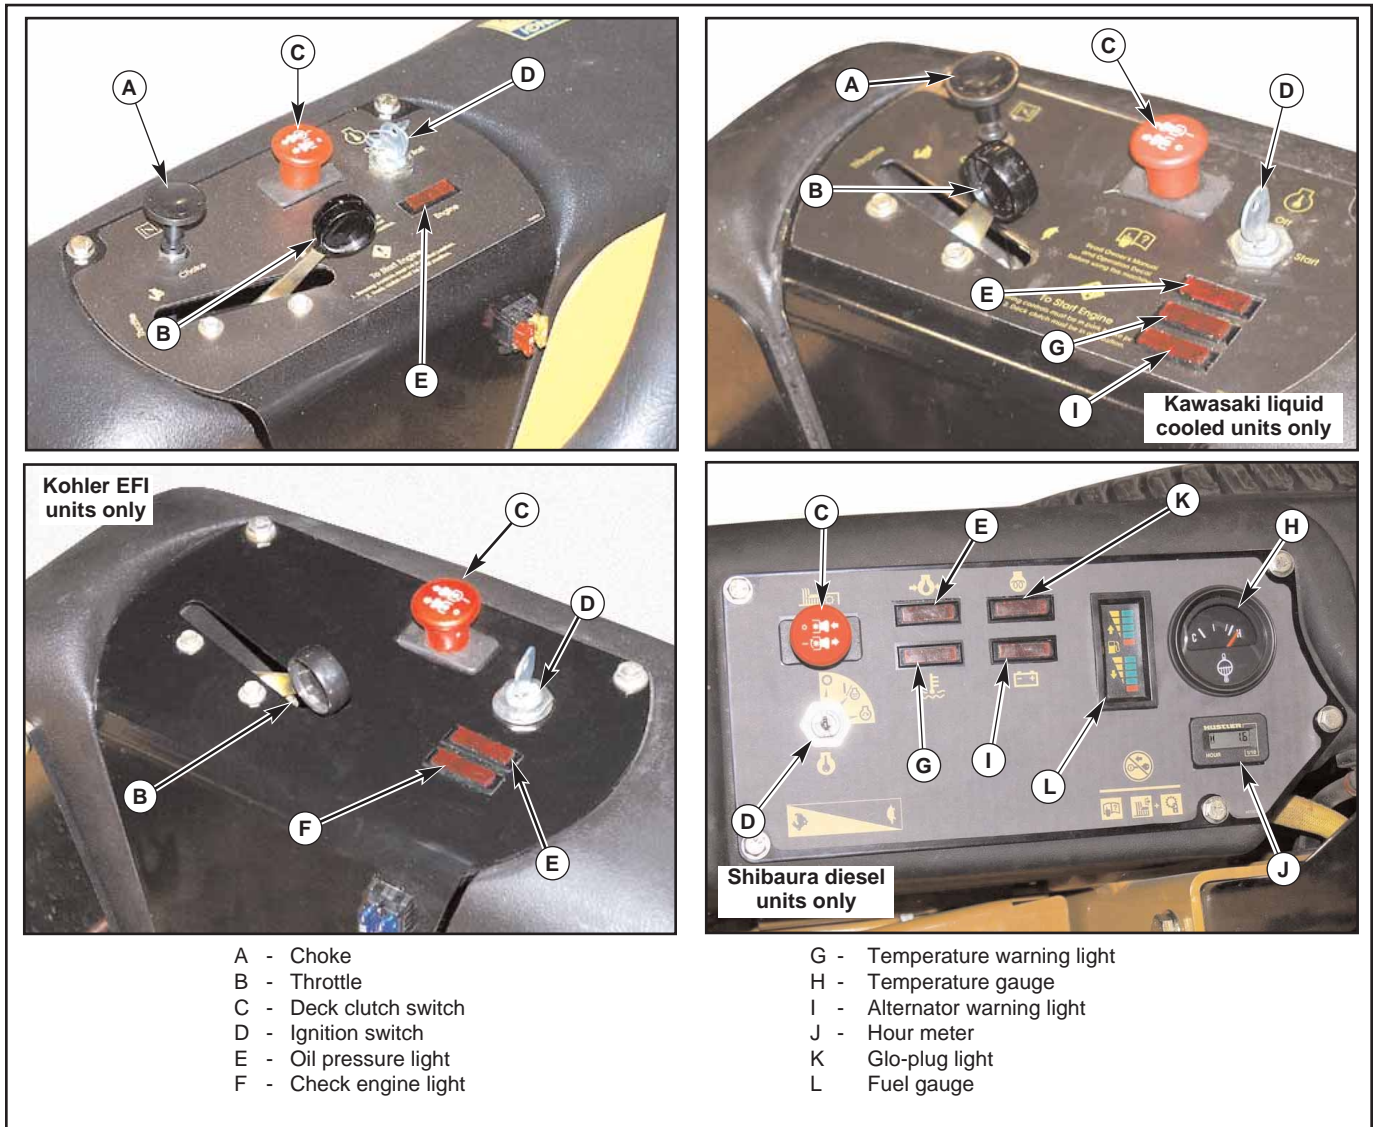

Figure 3-1
- A. Choke control (Fig. 3-1)** – a cable is linked to manually operate the engine choke. When the lever is in the down position, the choke is in the off (run) position. When the lever is pulled up, the choke is in the on (start) position. **Do not** operate the machine in the on (start) position. **NOTE:** The choke control is not used on Models 927053 & 927061 or any diesel powered models.
- B. Throttle control (Fig. 3-1 & 3-2)** — a cable is linked to engine throttle for controlling engine speed. Move lever forward to increase engine rpm, move lever rearward to decrease engine rpm.
- C. Deck clutch switch (Fig. 3-1)** — this switch engages the deck. Pull the switch up to engage and push switch down to disengage the clutch.
- D. Ignition switch (Fig. 3-1)** – a three position switch: “OFF”, “RUN”, and “START”. With key inserted, rotate it clockwise to “START” position; release key when engine starts, and switch will automatically return to the RUN position.
- E. Oil pressure light and alarm (Fig. 3-1)** — this light comes on when the ignition switch is placed in the RUN position and stays lit until the engine is running and a safe oil pressure is developed. If light comes on during operation, shut engine off immediately and locate and correct the problem.
- F. Check engine light (Fig. 3-1)** — refer to Kohler engine owner’s manual for details.
- G. Temperature warning light and alarm (Fig. 3-1)** — this light will come on when the engine coolant temperature reaches an unsafe level during operation. If light comes on, shut down the machine as soon as possible. Never risk continued operation when light remains on; high temperatures can severely damage the engine. Never risk continued operation when light remains on: high temperatures can severely damage the engine.
- H. Temperature gauge and alarm (Fig. 3-1)** — **Hustler Z Shibaura Diesel units only** — this gauge reflects the engine coolant
I. Alternator warning light (Fig. 3-1) — this light comes on when the ignition switch is placed in the RUN position and stays lit until the engine is running and the battery is being charged. If light comes on during operation, shut engine off immediately, locate and correct the problem.
J. Electronic hour meter (Fig. 3-1 & 3-5) — registers 1/10 hour increments up to 9,999.9 total hours. Connected to the ignition switch, the meter records the accumulative time while the ignition key is switched to the RUN position. **NOTE:** The hour meter is found in various locations on different tractors.
K. Glo-plug light (Fig. 3-1) — this light comes on when the ignition switch is turned to the “Pre-Heat/Run” position and held. It shows that power is going to the glo-plugs.
L. Fuel tank gauge (Fig. 3-1) — This gauge shows the fuel level for each fuel tank. The red light indicates that the fuel tank is empty and the operator needs to re-fuel immediately. The upper gauge indicates the fuel level in the right fuel tank and the lower gauge indicates the fuel level in the left fuel tank.